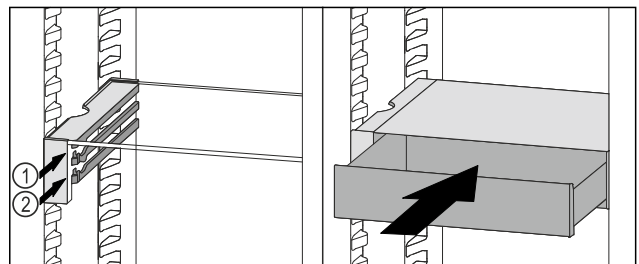

Fig. 97
- ▶ Place the VarioSafe drawer behind the stoppers on desired rib *Fig. 97 (1)* or *Fig. 97 (2)*.